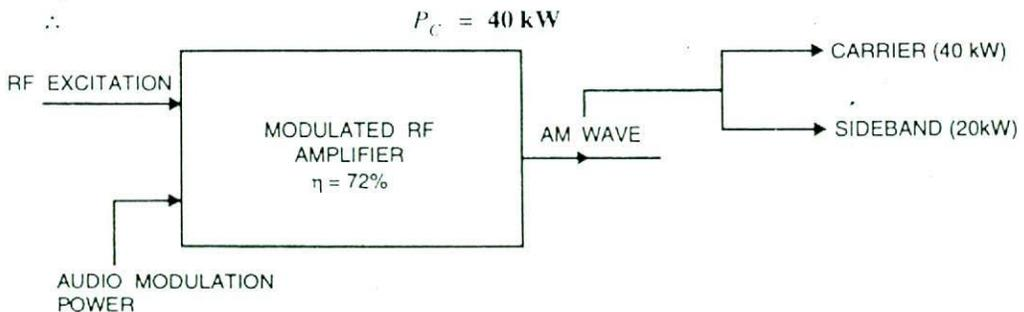

Fig. 18.9
**Solution.** Fig. 18.9 shows the block diagram indicating the power relations.